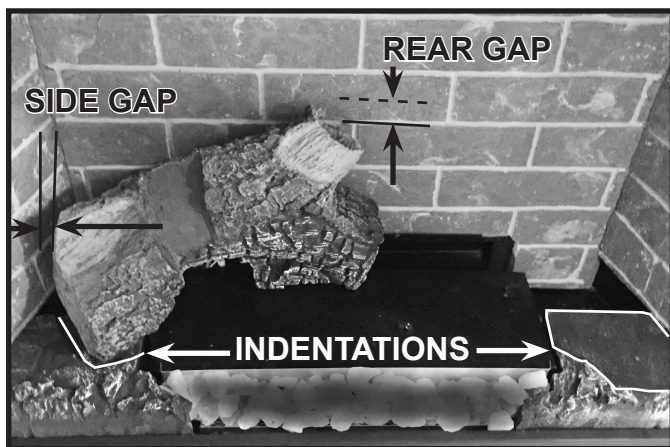

Figure 4. Rear Left Log Installed
The log pins, along with the indentations in the hearth components, will aid in correctly positioning the two rear logs and small burner log. The indentations are shown in Figure 4.
Additionally, the rear left log and rear right log are located by indentations in the right and left hearth components. See Figure 4.
1. Remove large rear left log from the packaging and install the log by locating it on the back left log pin(s). The left side of the log will reside within the indentation in the left hearth component. See Figure 4.
**Note:** SL-3X models do not utilize hearth indentations. See Figure 4.
**SL-7X and SL-9X Models:** The rear left log will be positioned to maintain about a 1/4 inch rear gap between the rear left log and the back wall refractory. There will be about a 1 inch side gap between the left end of the log and left panel. See Figure 4.
**SL-3X Models:** The rear left log will be positioned to maintain about a 1/4 inch rear gap between the rear left log and the back wall refractory. The rear left log will contact the left refractory panel (no side gap). See Figure 4.